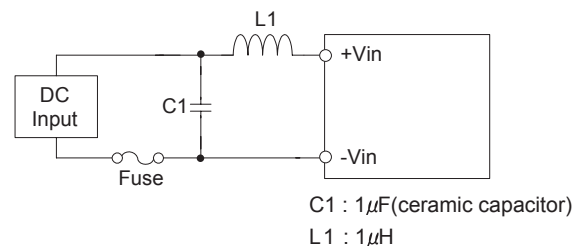

Fig.2.2 Recommended external input filter
(3) Conducted noise
- Install an external input filter as shown in Fig.2.2 in order to reduce conducted noise.